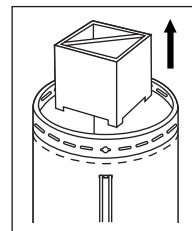

Fig.3
A) Remove all packing materials from heater. (Fig. 3)